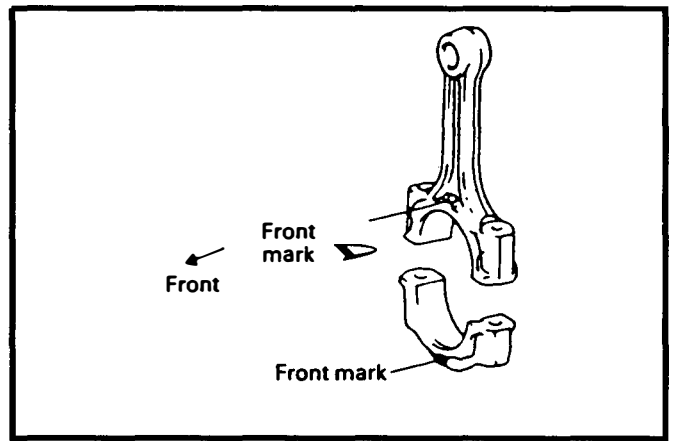

Figure 26.
11. Apply assembly grease to the inner surface of the bearing (the sliding surface relative to the crankshaft journal) as well as to the nut seating surface. Then, install the connecting rod cap with its front mark facing toward the front side. After each connecting rod has been installed, ensure that the crankshaft turns freely. See Figure 26.